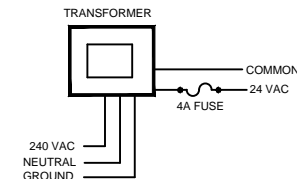

FIGURE 2: ALL OTHER PHOENIX DEVICES
- * FOR ALL OTHER PHOENIX DEVICES: DO NOT EARTH GROUND SECONDARY OF TRANSFORMER (SEE FIGURE 2)
- * SEE TABLE 2 ON VANTAGE SPECS SHEET 2 OF 2 FOR A LIST OF HALF WAVE (HW) AND FULL WAVE (FW) DEVICES.